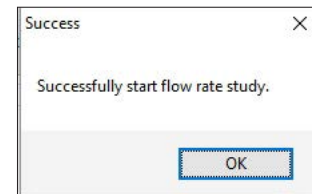

Figure 43: Flow Rate Study started
*Result: A message window opens (Figure 43) to confirm the successful start of the flow rate study. The study continues for one week from the start time and date.*